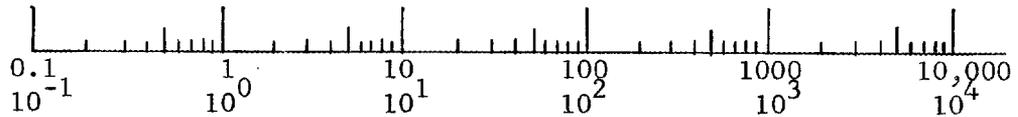

Fig. V-50. Logarithmically Calibrated Scale for a Counting-Rate Meter
45. Since the range would be difficult to record on a linear scale, we use a counting instrument with a logarithmic scale. Such an instrument would have a scale as shown in Figure V-50. It is commonly called a log-counting-rate meter.